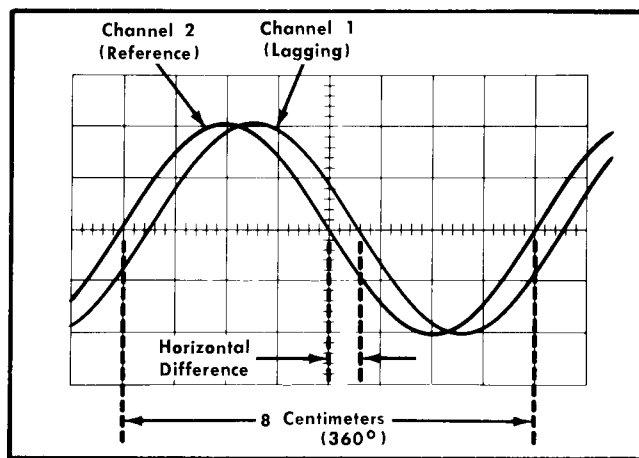
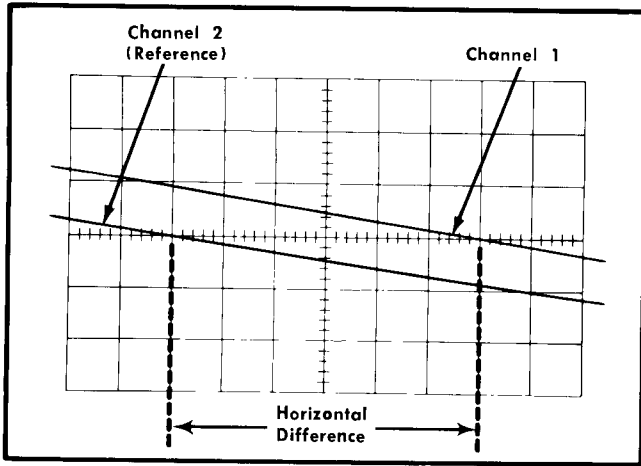

Fig. 2-18. Measuring phase difference.
Fig. 2-19. High resolution phase-difference measurement with increased sweep rate.
10. Turn the VARIABLE A control until one cycle of the reference signal (channel 1) occupies exactly eight divisions between the first and ninth graticule lines (see Fig. 2-18). Each division of the graticule represents 45° of the cycle ($360^\circ \div 8 \text{ centimeters} = 45^\circ/\text{centimeter}$). The sweep rate can be stated in terms of degrees as 45°/centimeter.
Example. Assume a horizontal difference of 0.6 centimeter with a sweep rate of 45° as shown in Fig. 2-18.
Example. If the sweep rate were increased 10 times with the magnifier, the magnified sweep rate would be $45^\circ \div 10 = 4.5^\circ/\text{division}$. Fig. 2-19 shows the same signals as used in Fig. 2-18 but with the MAG switch set to $\times 10$. With a horizontal difference of 6 centimeters, the phase difference would be: